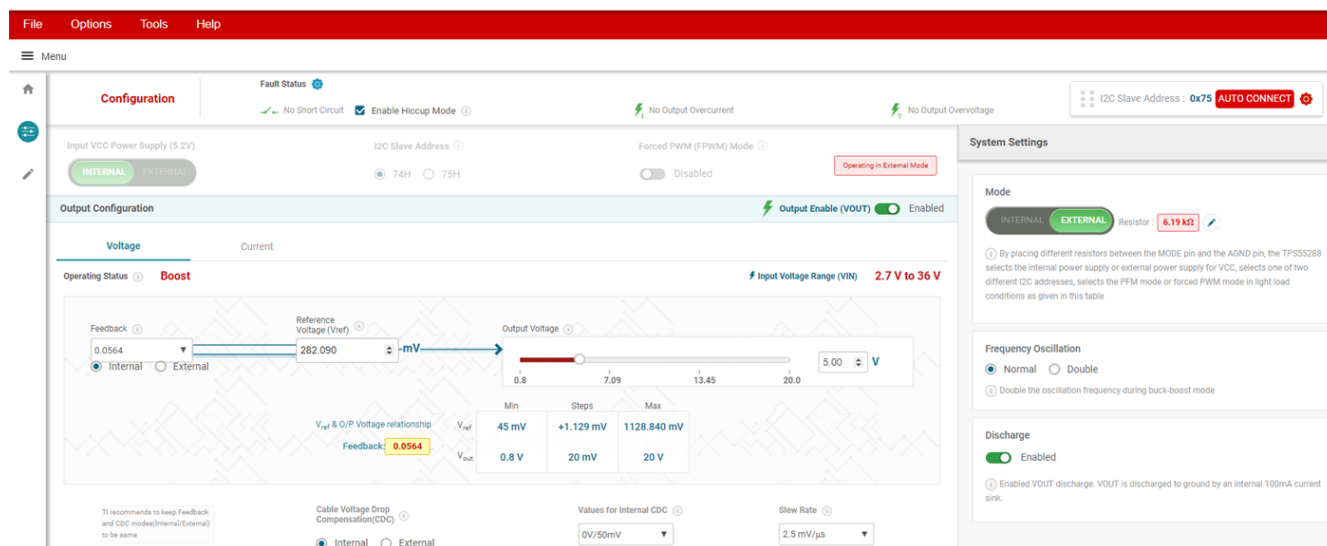

Figure 4-4. GUI User Interface of TPS55288EVM-053
Step 4: Click the start button. It will show the GUI user interface of TPS55288EVM-053 (Figure 4-4).